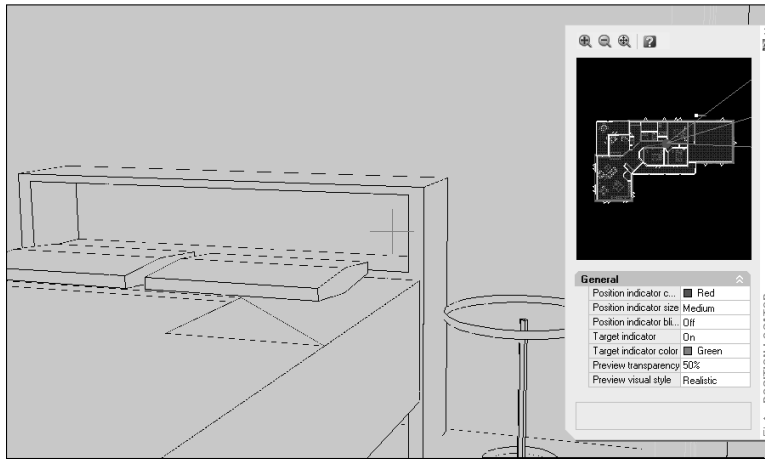

**Figure 22-28:** The master bedroom.
10. Continue to walk forward using the W key and dragging slightly to the left to keep the bed in the bedroom in the center of your view until your screen looks like Figure 22-28.